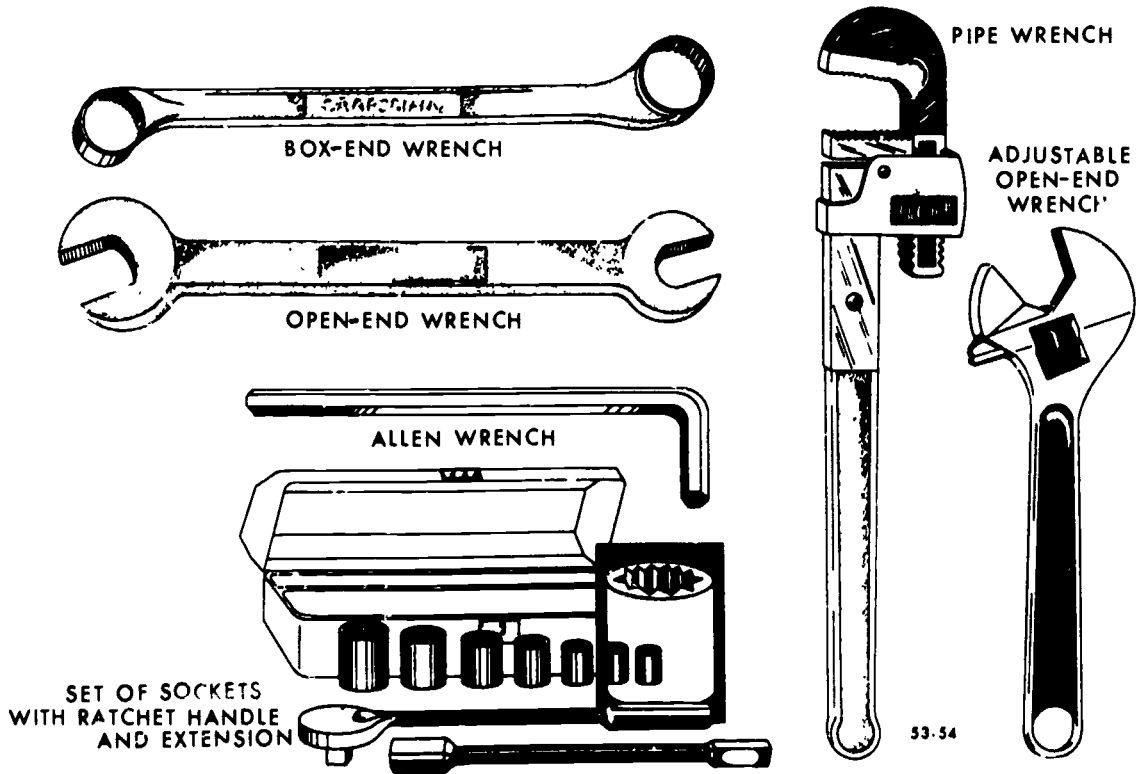

Figure 5-3. Wrenches.
**Wrenches.** Several of the more common types of wrenches are shown in figure 5-3. Of those shown, the adjustable wrench and the Allen wrench are the two that you will probably use most.